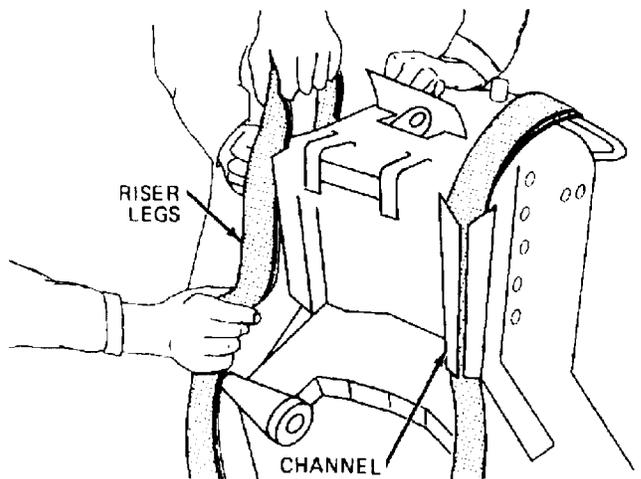

Figure 3. Route Each Group of Risers
c. Route each group of risers thru metal channels located on rear side of headrest (Figure 3).
d. With helper holding drogue canopy, in front of ejection seat, packer shall accordion fold left group of risers into forward position of drogue container, from left to right, until confluence point is at top of drogue container. Lay confluence point on top of risers. Packers shall accordion fold right group of risers into rear portion of drogue container in same manner (QA)